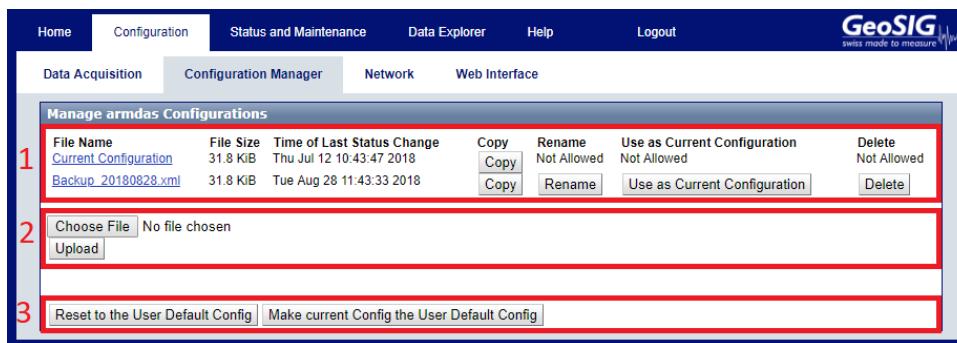

Figure 33: Configuration Manager screen
As described in the previous chapter, the *Data Acquisition* screen only allows configuring the currently used configuration. The **Configuration Manager** screen described in this chapter allows managing several configurations, changing the current configuration, uploading a new configuration and so on. As depicted in Figure 33, the screen is divided into three sections:
1. **The Configuration List:** This list contains all configurations currently available on the main storage media. The *Current Configuration* is always listed here. This configuration can be copied and downloaded but not renamed, removed or made the current configuration (as it is already the current). As depicted in Figure 33, these options become available to other configurations stored on the device (in this example after uploading a file to the device). When pressing **Use as Current Configuration** it will store this configuration as the *Current Configuration*. The existing configuration will be overwritten and the instrument restarted. Note that only the *Current Configuration* can be edited in the *Firmware* screen. The other configuration files will remain untouched. The *Current Configuration* can be saved in a file by pressing **Copy**.